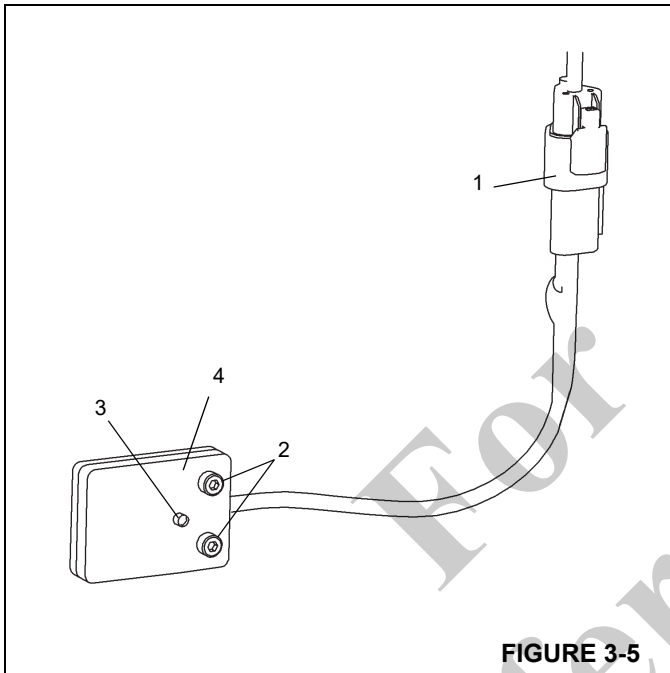

FIGURE 3-5
- Disconnect electrical connector (1, Figure 3-5) at switch.
- Remove the two screws (2, Figure 3-5) securing the switch (4) to the stabilizer box; remove switch.
- Using two screws (2, Figure 3-5), secure the switch (4) to stabilizer box.
- Connect electrical connector (1, Figure 3-5) to switch.
- With power on and stabilizer beam fully extended, ensure LED (3, Figure 3-5) on proximity switch